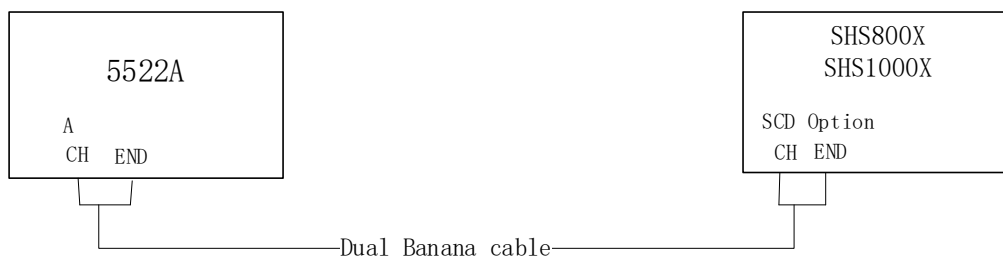

Figure 11 Connecting test instruments for meter's DCI/ACI
**Note:** “CH” and “END” in Figure 11 of the 5522A represents the current output of 5522A with a dual banana cable, connect to SCD600mA (10A) option that installed on the input of scope meter according to test.